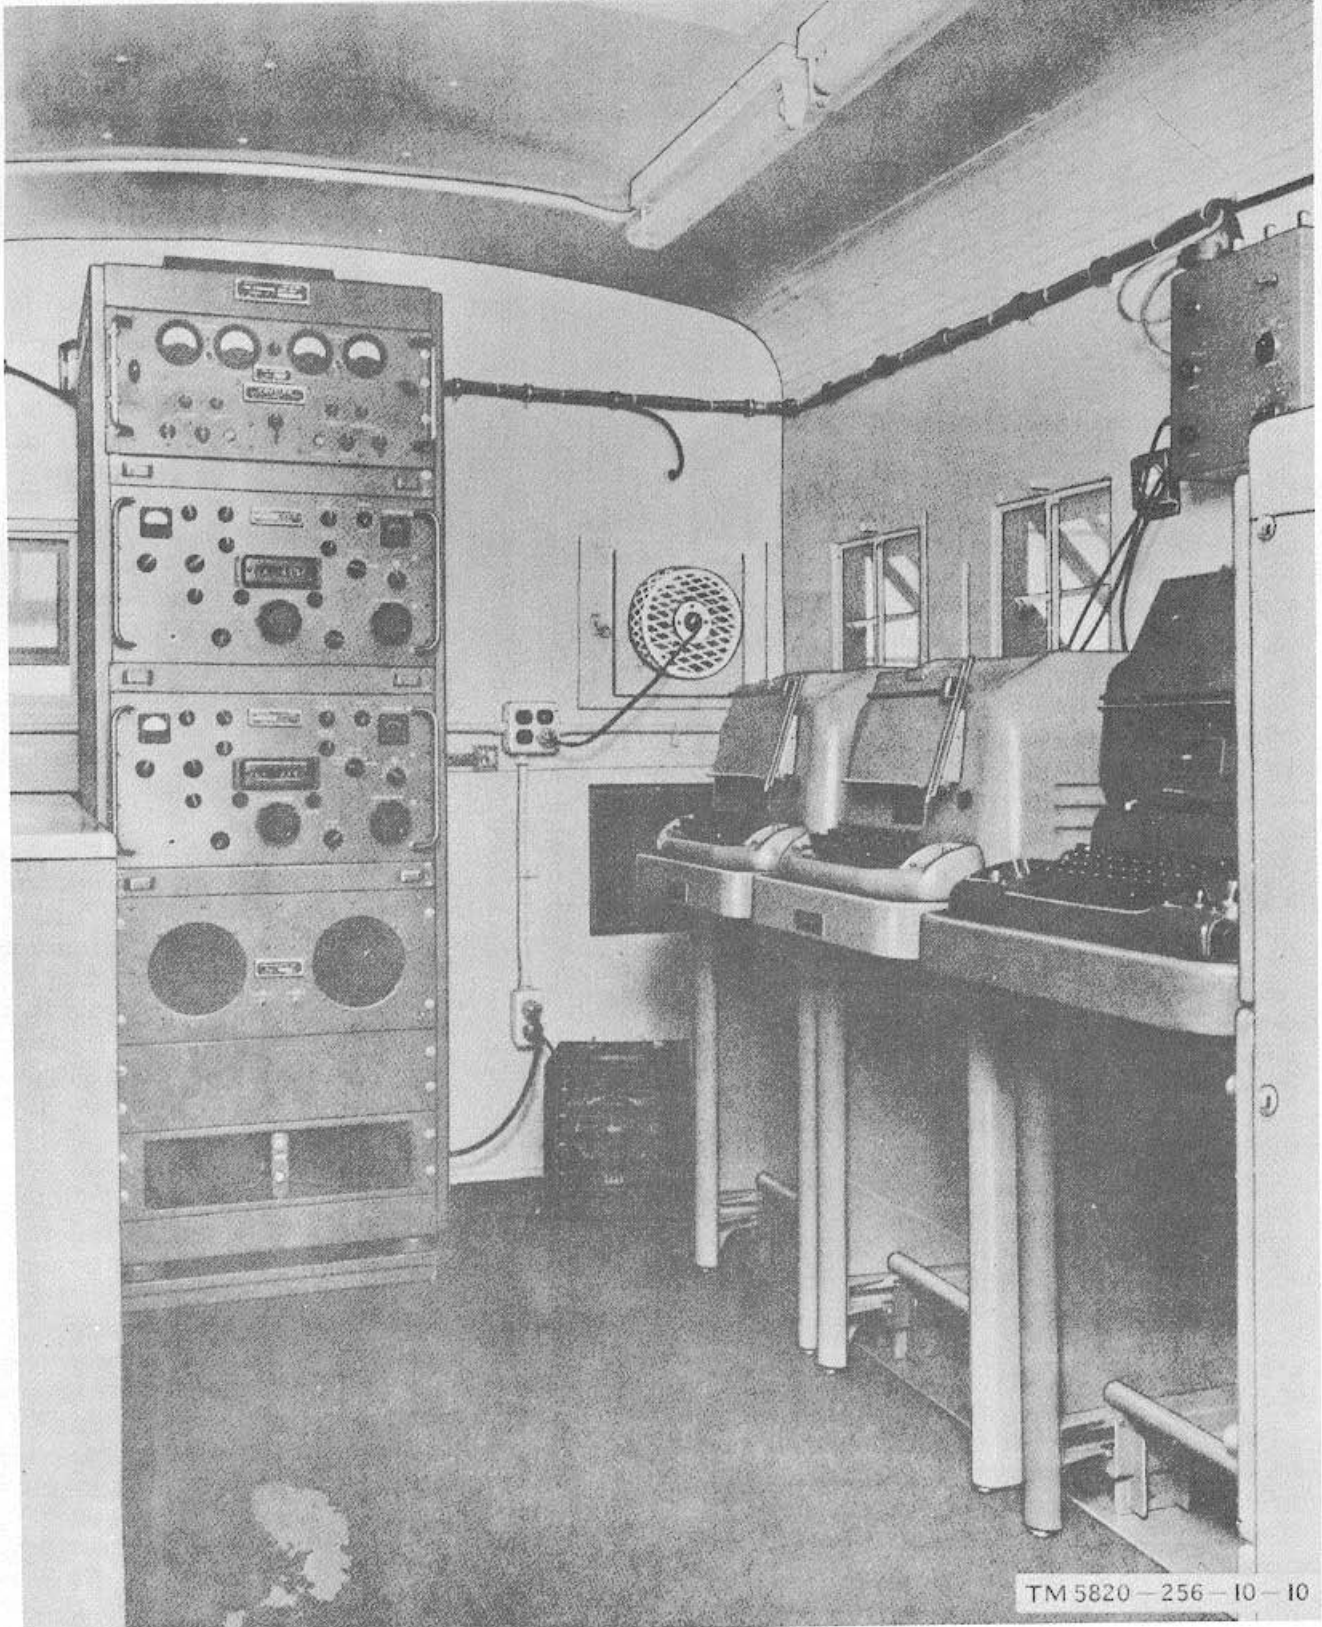

Figure 1-4. Radio Set AN/GRC-26D, interior front view.
Figures 1-4 through 1-10 show interior views of the shelter.
(fig. 1-4)
a. The control unit (fig. 1-4) is the control center for the radio set. The control unit routes the signals to be transmitted or received to the proper components of the radio set for each particular type of operation (fsk, am, voice, cw, fsk am., and cryptographic (crypto)). The control unit receives mark and space signals from-
(fig. 1-4 and 1-9)
a. *Cabinet, Electrical Equipment CY-1807/G* (fig. 1-4). The metal equipment cabinet is a rack-type cabinet that houses the two receivers, a converter, a speaker assembly, and Blower Assembly, Electrical HD-223/G. The equipment cabinet is shock mounted to the floor and wall of the shelter. A stainless-steel utility table can be fastened to the front of the equipment cabinet at the correct servicing height for the three major components in the equipment cabinet. When not in use, the utility table is attached to the shelter wall by brackets.
b. *Cabinet, Storage CY-1721(*)/GRC* (fig. 1-4)
c. *Clock* (fig. 1-4). The clock is mounted in a metal case. The mounting frame has four holes which are for mounting of the dock on the curt>side wall above the teletypewriter equipment.
d. *Heater* (fig. 1-4). The heater is housed in a black metal case with a cast aluminum grid. It operates on 115-volt, 50- to 60-Hertz (Hz), single-phase ac and consumes 1,500 watts. A thermal reset switch is on the front panel below the grid.